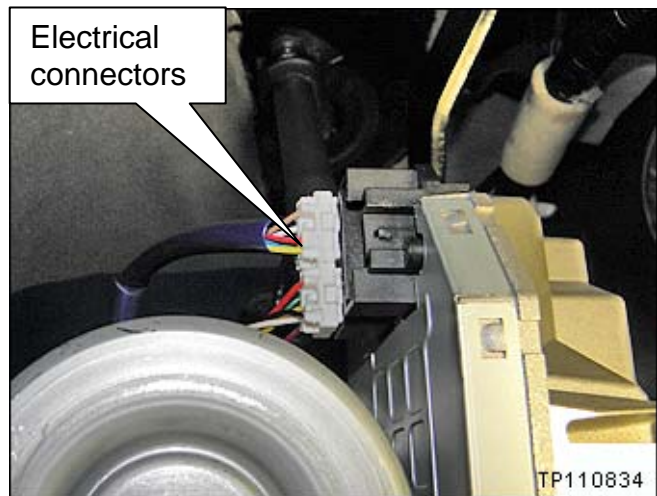

Figure 26
38. Disconnect the electrical connectors shown in Figure 26.